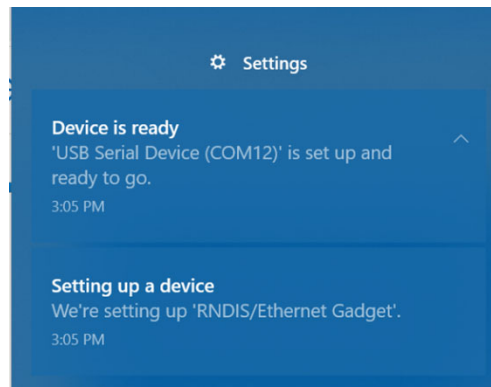

Figure 4-1: USB-C Installation—Windows Setup Notifications (Windows 10 shown)
3. Wait for the automatic virtual COM port setup to complete—The computer displays a notice while setting up the port, and another notice when the installation is complete, as shown in Figure 4-1.